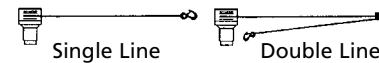

Figure 1
** All loads shown are for single-line operation (see Figure 1). Double-line operation with optional pulley block (P/N 2227) approximately doubles capacity of winch (see Figure 1).
1. The X1 winch is rated at 2,000 lbs. (single-line) capacity. **DO NOT OVERLOAD. DO NOT ATTEMPT PROLONGED PULLS AT HEAVY LOADS. DO NOT MAINTAIN POWER TO THE WINCH IF THE MOTOR STALLS.** Overloads can damage the winch and/or the wire rope and create unsafe operating conditions. **FOR HEAVY LOADS, WE RECOMMEND THE USE OF THE OPTIONAL PULLEY BLOCK AND HOOK ASSEMBLY (PART NO. 2227) TO DOUBLE-LINE THE WIRE ROPE** (Figure 1). This reduces the load on the winch and the strain on the wire rope by approximately 50%.